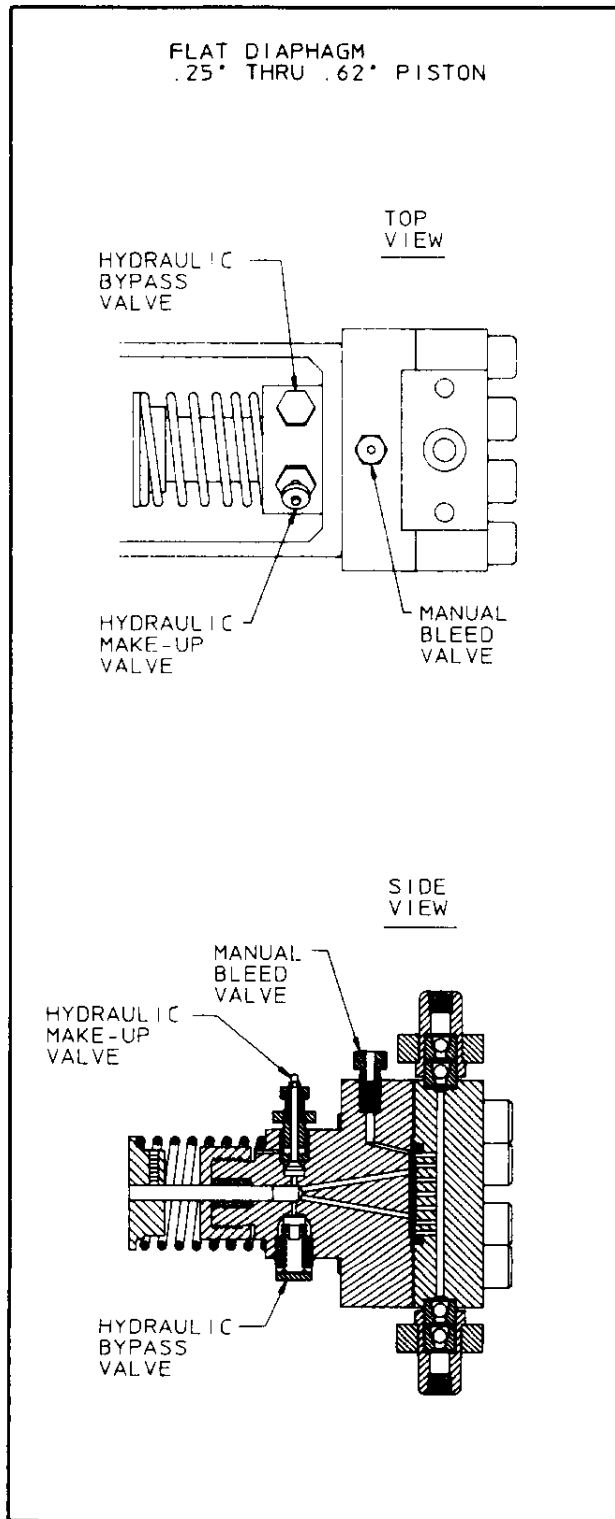

FIGURE 3
4.1 Diaphragm Inspection (Figure 3 & 4)